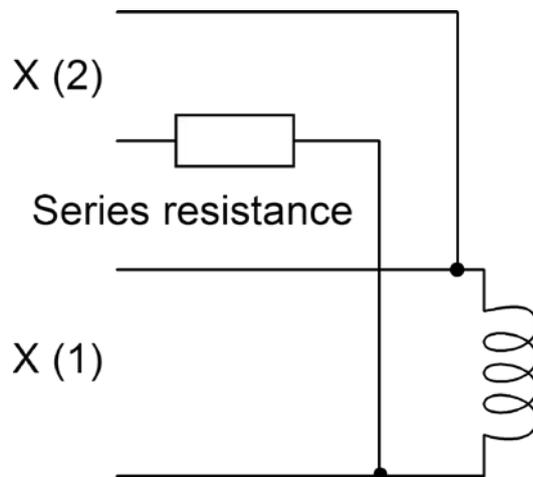
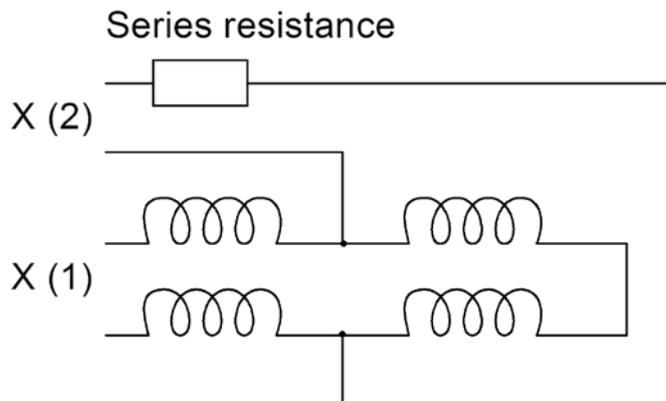

Figure 1: Series resistance without mid-point tapped coil
Figure 2: Series resistance with mid-point tapped coil
- ⦿ Sometimes very low magnetic field strengths have to be generated. Therefore it is possible to use a series resistance. If a radiating coil without a mid-point tap should be used with a series resistance, the option **Series resistance** should be selected. The resistance should be connected to the X-output 2 jacks (see figure 1). The calibration setup for coils with a mid-point tap is shown in figure 2. To generate a corresponding calibration file, choose **Calibration/Determine field range**. The program will determine the field range and allow to save the data in a new RLCAL file.